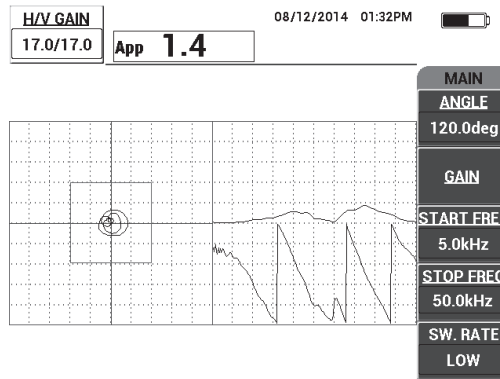

Figure 6-57 The swept figure between two divisions
1. Place the probe tips on a good part of the standard, then press the GAIN key (**dB**) and adjust the GAIN until the swept figure is contained between two divisions inside the alarm box (see Figure 6-57 on page 171).